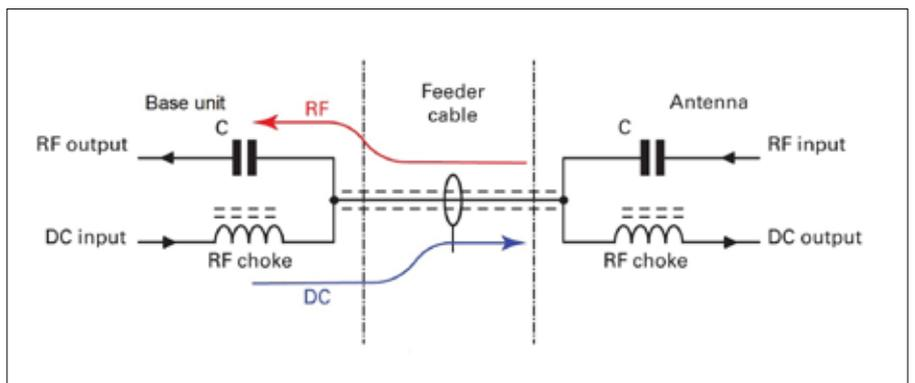

Fig. 3: How both power and RF can be transferred using a single length of feeder.
Back in the shack, the ALA1530LN is supplied with a compact antenna interface base unit that houses the power feed control electronics along with the bias tee. Mixing the power and RF down a single cable is common practice. I show a simplified example of how this works in **Fig. 3**. In its simplest form, a bias tee comprises a radio frequency (RF) choke inductor and a capacitor. The easy way to understand its operation is to assume that an inductor has zero DC resistance but opposes the flow of RF, whereas the capacitor does the opposite and passes RF but has an infinitely high DC resistance. The flow of RF and DC is